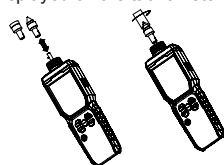

Figure. 7
3. Contact---RPM/Hz (Figure 7)